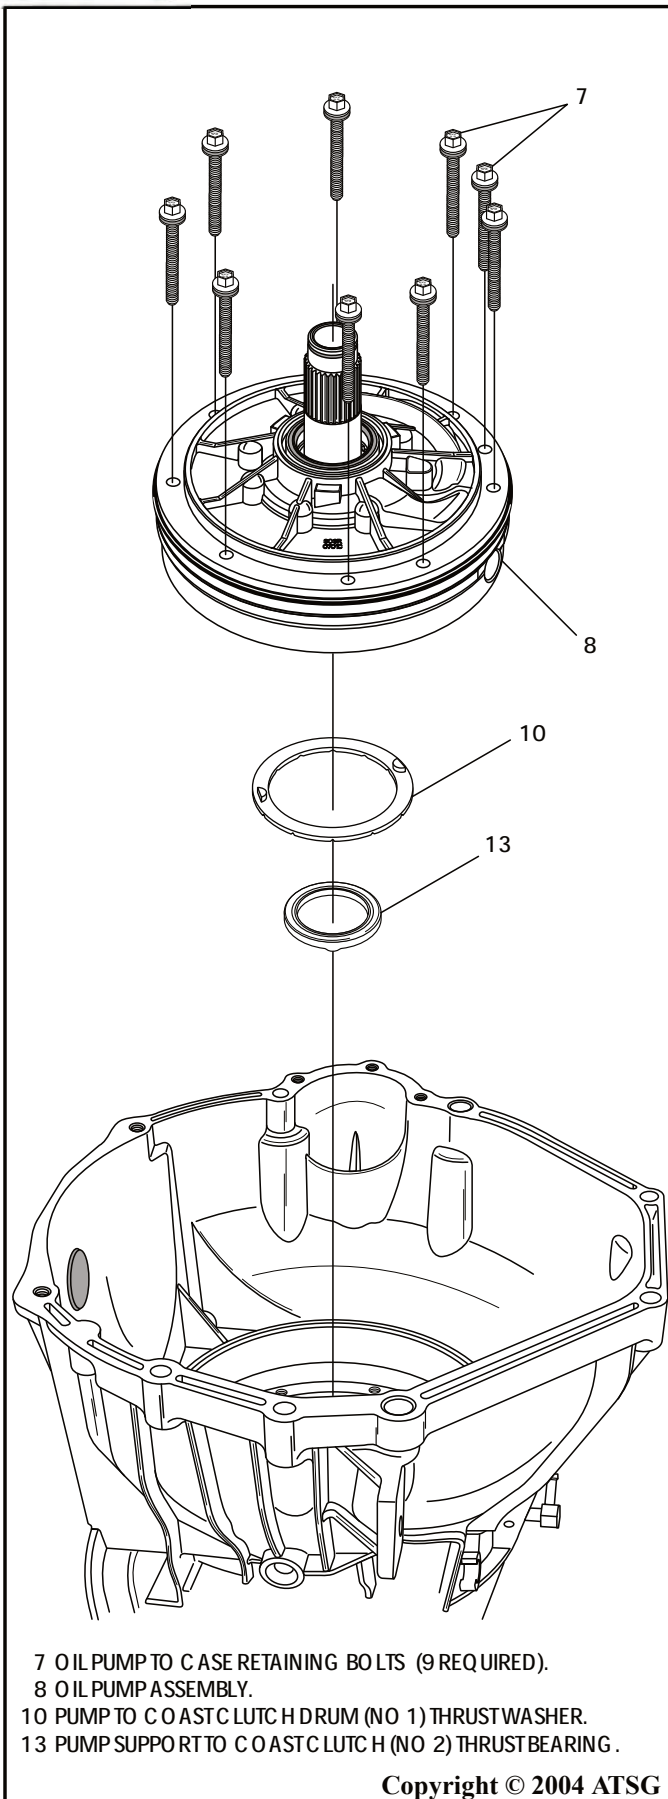

Figure 176
26. Install the pre-assembled oil pump assembly, as shown in Figure 176.
27. Install the nine new retaining bolts, as shown in Figure 176, and remove the locating dowels.